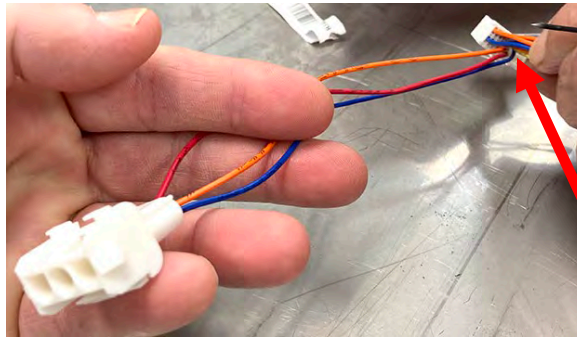
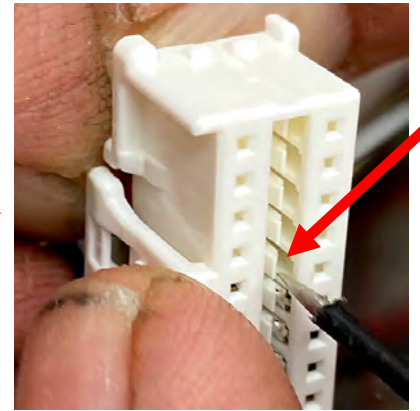
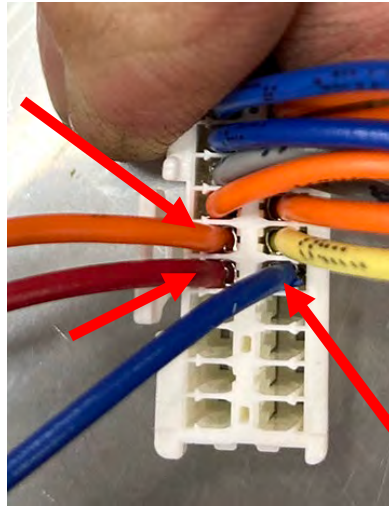

Figure 21
Figure 22
Figure 23
- g. Locate the 8055991 harness. Disconnect the three (3)-pin molex connector and wires from the 20-pin connector (see Figure 21). Use a small screwdriver or fine pin to gently lift up the tabs (see Figure 22) and gently tug on the wires, to disconnect the orange, red and blue wires as shown (see Figure 23).